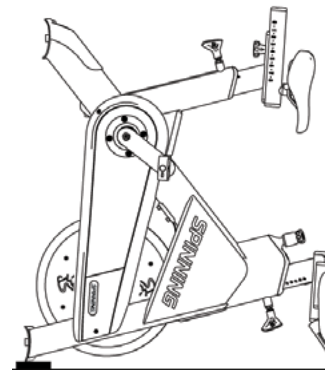

Figure 1
1. Stand the bike frame on its front end (toward flywheel) and cushion the bike frame (Figure 1) with a towel or piece of foam to protect the handlebar adjustment pop-pin from damage.